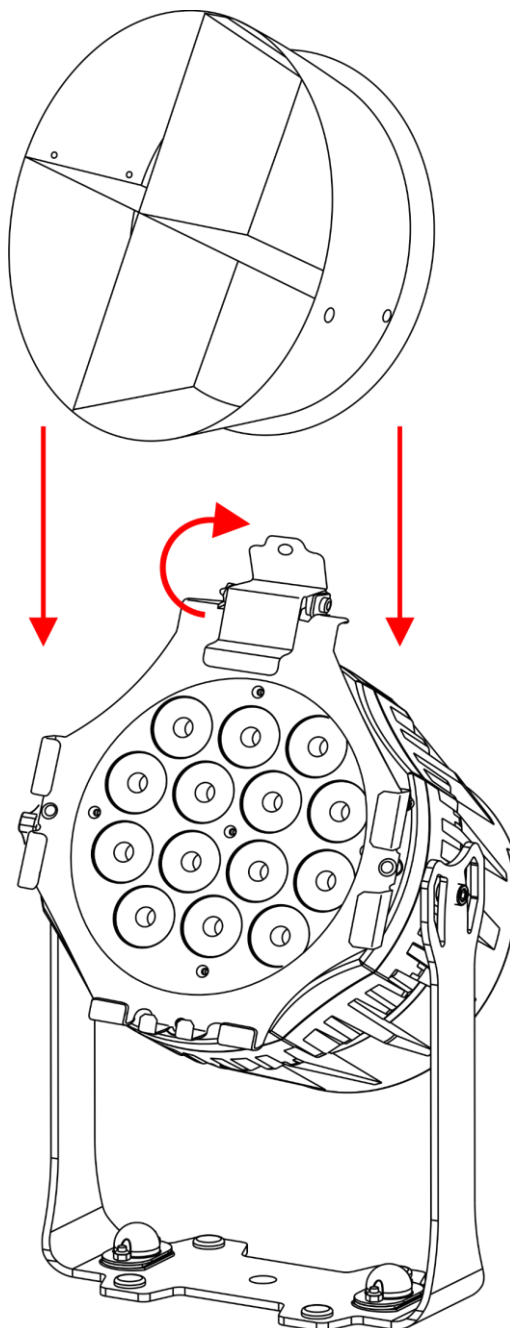

Fig. 09
- 03) Slide the tophat into the accessory frame. See Fig. 09.